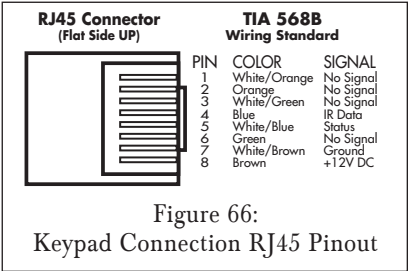

Figure 66:
- 2. Terminate each CAT5 cable with RJ45 connectors on one end. Follow the TIA 568B wiring standard (see *Figure 66*).